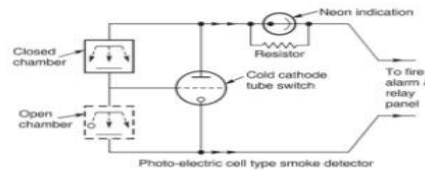

Fig. 13.10. A type of smoke detector circuit based on ionisation chamber.
(4) *Smoke and heat detectors*. These are located on ceilings of risk areas, they have neon indicators to identify which device has operated. Smoke detectors may be of either the ionisation type (Fig. 13.10) or the photo-electric cell type, through thermistor and electrical fusible link types are in general use. Generally, such detectors initiate